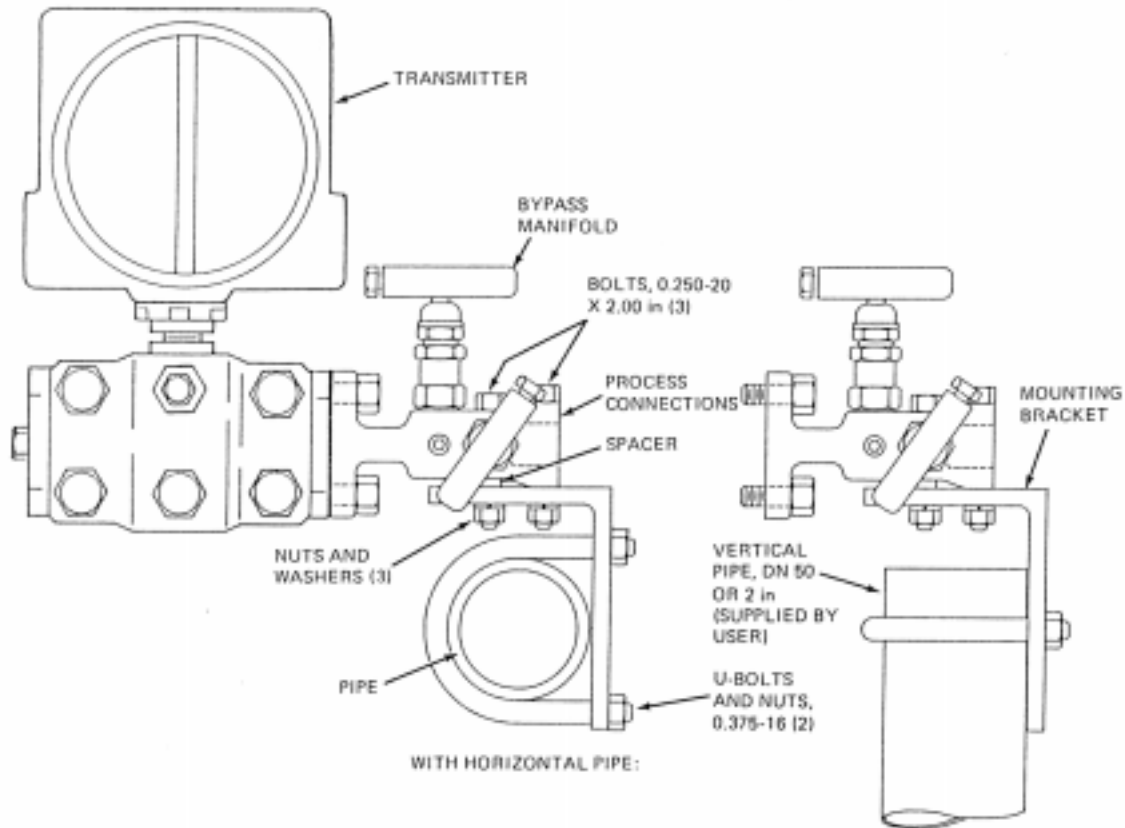

Figure 4. Installation of Optional Mounting Bracket on 3-Valve Bypass Manifold With Integral NPT Process Connections
1. If manifold has an optional manifold mount (with mounting bracket), install mounting bracket on pipe as shown in Figure 4. Then install manifold on mounting bracket as shown. Note that Figure 4 shows an alternate manifold arrangement (valve handle facing down). With E13DM Transmitters, the alternate arrangement must be used to avoid interference between the valve handle and the transmitter topworks. With other Foxboro transmitters, either arrangement can be used.